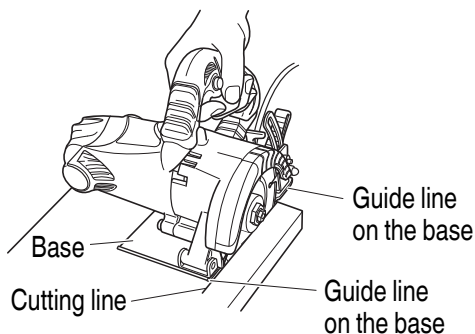

Fig. 4
1. Set the machine body (base) on the material to be cut; use the side on the base to align the diamond wheel with the cutting line. (**Fig. 4**)